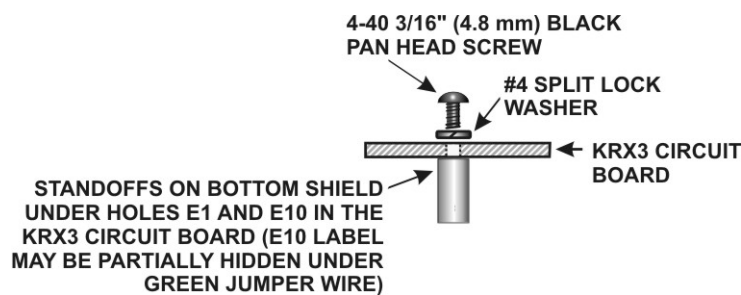

Figure 40. Mounting KRX3 Main PC Board on Bottom Shield.
□ Secure the KRX3 main circuit board to the standoffs at E1 and E10 with 4-40 3/16" (4.8 mm) black pan head screws and #4 split lock washers as shown in Figure 40.